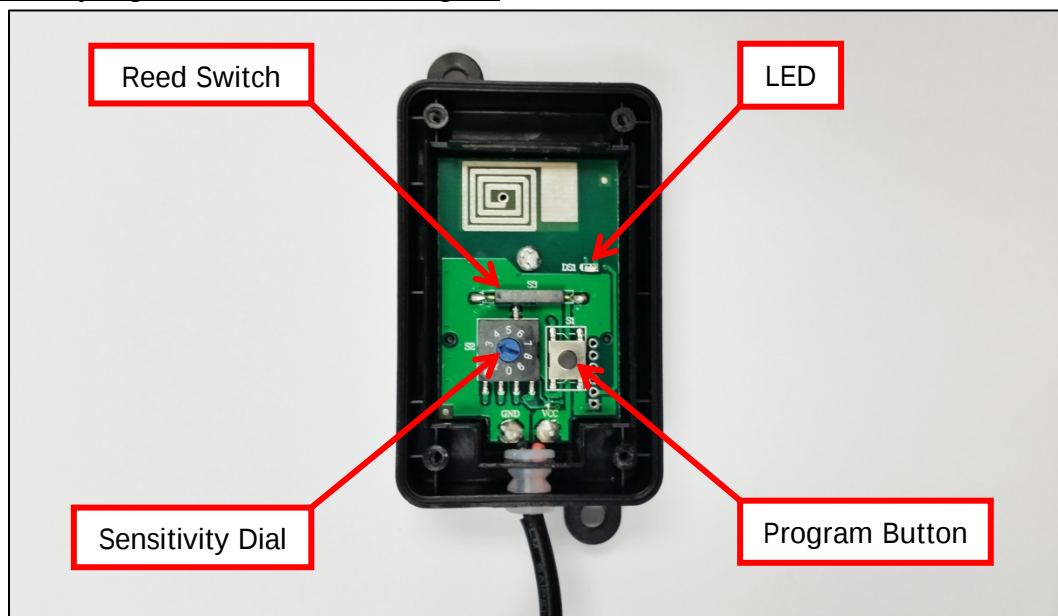

Fig.4
- d. Turn the base plate over (Magnet down). Then place the motion sensor on top of it so that the magnet is aligned with the reed switch. See fig.4. **If this is not done the default program cannot be changed.**
- a. Set the Motion sensor Adjustment Dial to level 5. (See Fig.4)
- e. Press the **STOP** button on the Motor controller (see fig.4). The green LED will illuminate continuously.
- f. Press the programming button on the GC779G Motion sensor (See Fig.4). Both the Purple LED on the Motion sensor and the green LED on the Motor controller will flash once and extinguish. This completes the programming sequence.